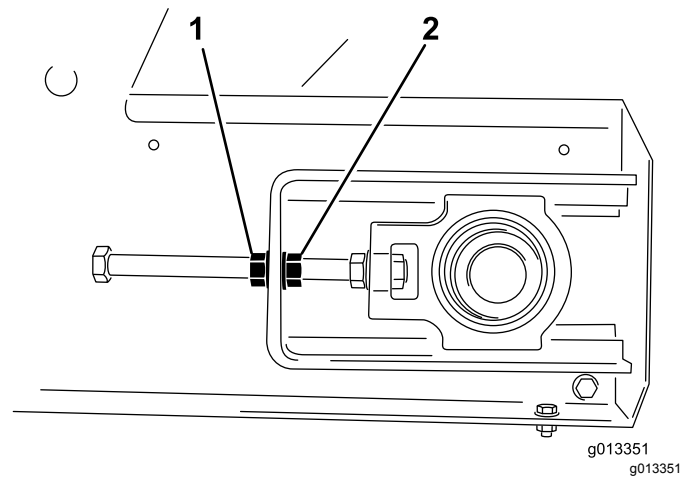

Figure 55
4. With 2 wrenches, hold the end of the tensioner rod stationary and then loosen the locking nut, which is the nut closest to the end of the rod (Figure 55).
3. On the side the belt is tracking towards, hold the end of the tensioner rod stationary, then loosen the locking nut and tighten the adjuster nut by 2 flats of the nut (Figure 55).